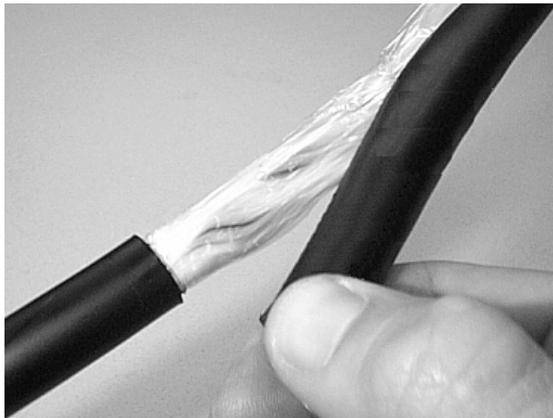

Figure 8 - Remove the outer cable jacket.
4.9 Remove the outer cable jacket from the dielectric strength members and inner jacket (Figure 8).